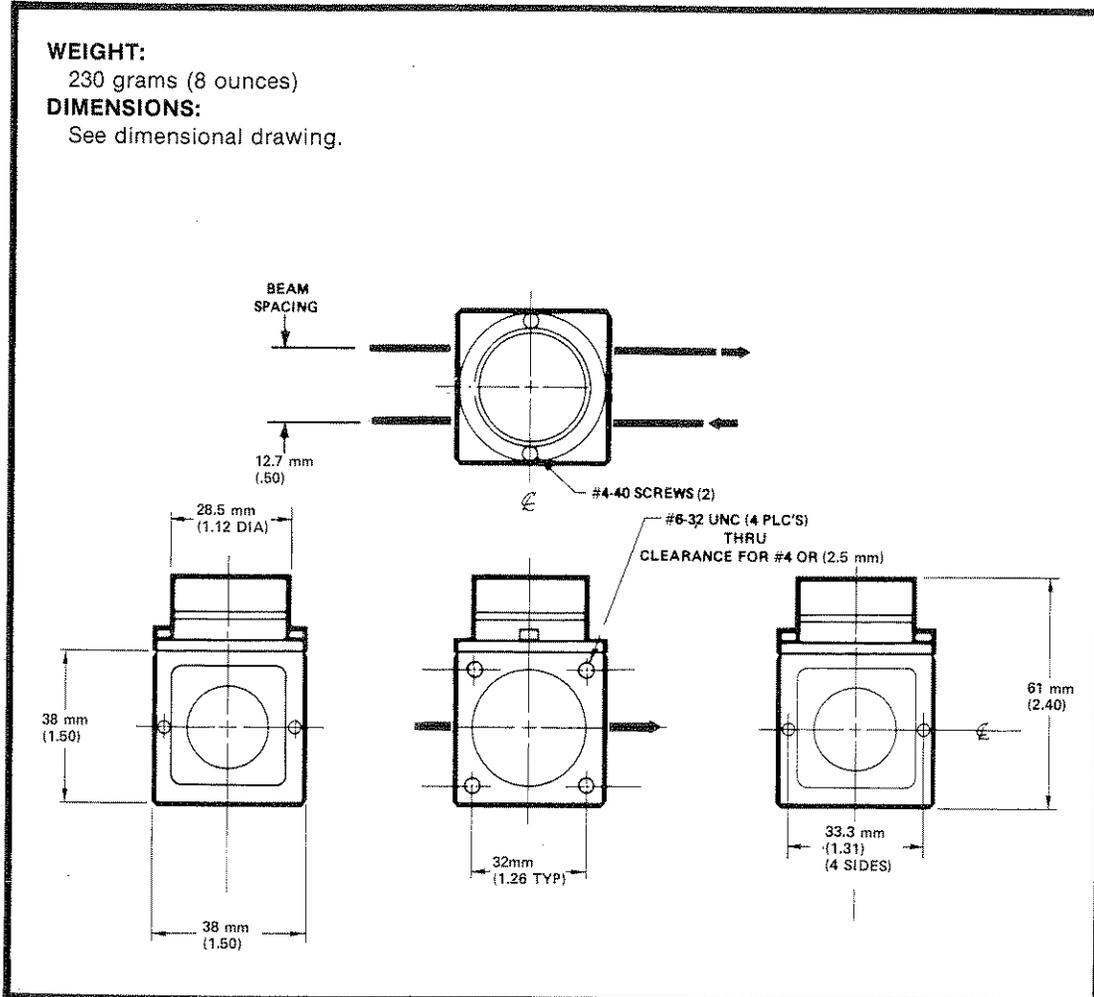

Figure 2-19. 10702A Linear Interferometer Specifications
- 10702A Linear Interferometer Specifications, see *Figure 2-19*.